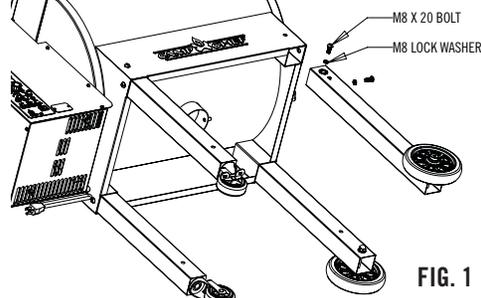

FIG. 1
2. Install each of the 4 legs as shown in Fig 1. Make sure the legs with wheels are attached to the right side of the grill with the wheels facing out. Note: Front legs are marked with an F and back legs are marked with a B.